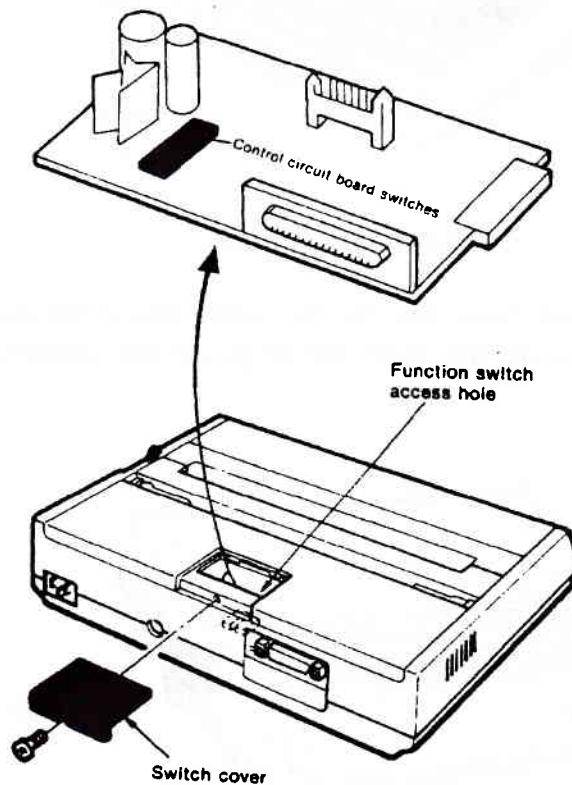

Figure 20, Switch cover
3. Remove the switch cover from the printer. (see figure 20).
5. Install the switch cover on the printer. (see figure 20).